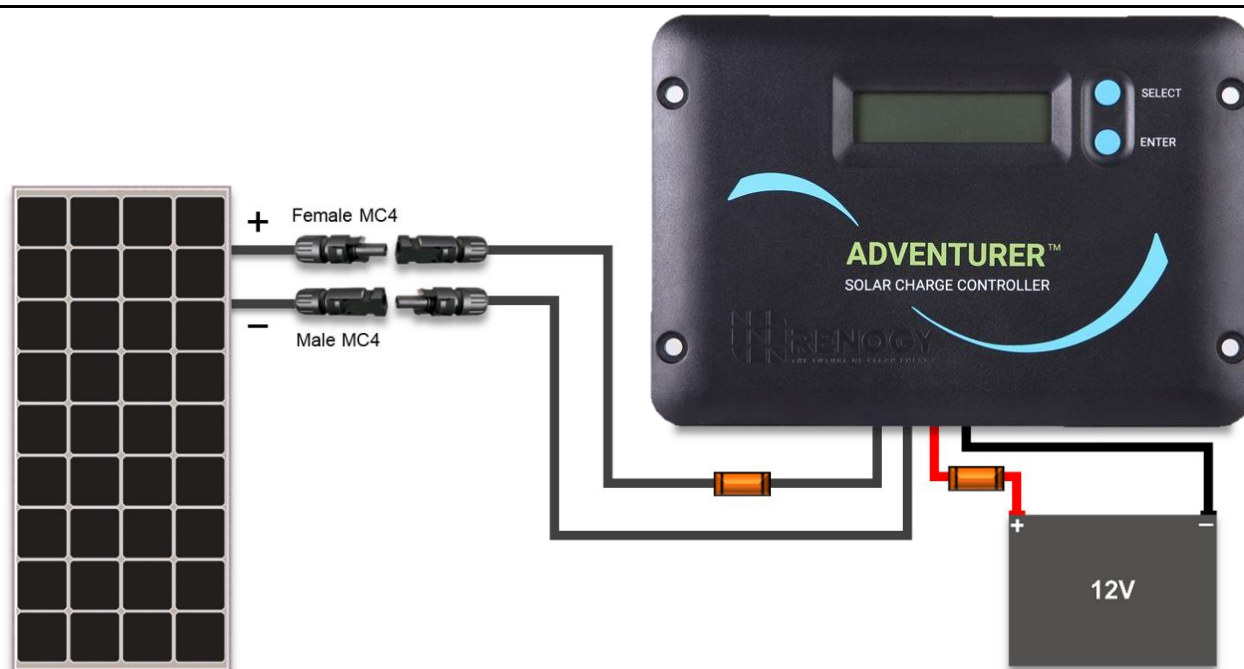

Figure 6.4 Completed 12V off-grid system
Please refer to **Figure 6.4** when completing the following connections:
1. First, mate the “Male” MC4 Connector from the solar panel that has the **negative (-)** label with the “Female” MC4 Connector of your adapter kit as shown in **Figure 6.4**. Then connect the bare stranded portion of the cable to the **negative (-)** solar input terminal on the charge controller.
2. Next, mate the “Female” MC4 connector from the panel that has the **positive (+)** label with the “Male” MC4 connector of your adapter kit as shown in **Figure 6.4**.
Figure 6.4 shows the complete wiring of a typical off-grid system. It includes fuses for safety and protection. This configuration shows only one panel and one battery connected to the controller. In **Sections 8 and 9**, more panel and battery configurations (respectively) will be described. Instructions will follow.